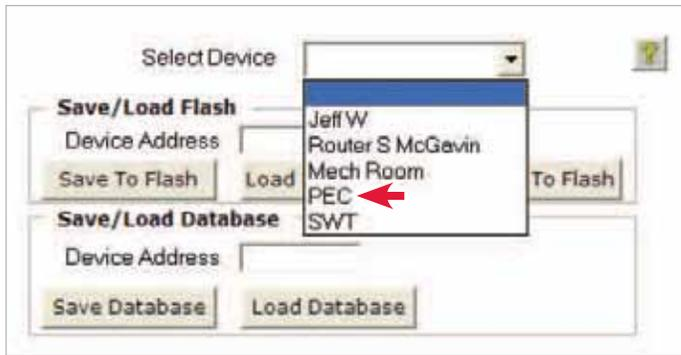

Figure 5.3-3: Device List for Saving Databases
2. Click the **Select Device** dropdown menu to see a listing of all the cabinet controls and DZCMs the UCT detects. If a device does not appear, check that it is properly connected and is receiving power. **Figure 5.3-3** shows “Jeff W” at the top of the list. This device is the laptop computer connected to the Network System.